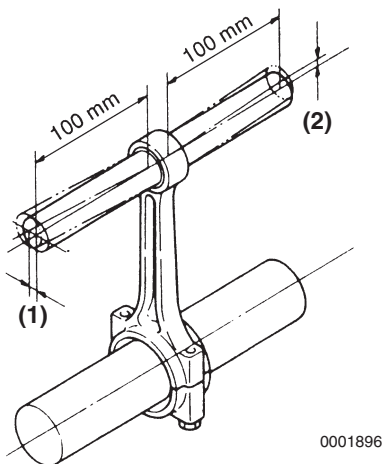
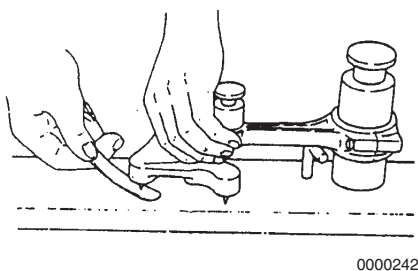

Figure 6-70
Figure 6-71
2. Measure the connecting rod twist (Figure 6-70, (1)) and bend (Figure 6-70, (2)) using a connecting rod alignment tool (Figure 6-71). Record the measurements. See *Connecting Rod* on page 6-12 for specifications.